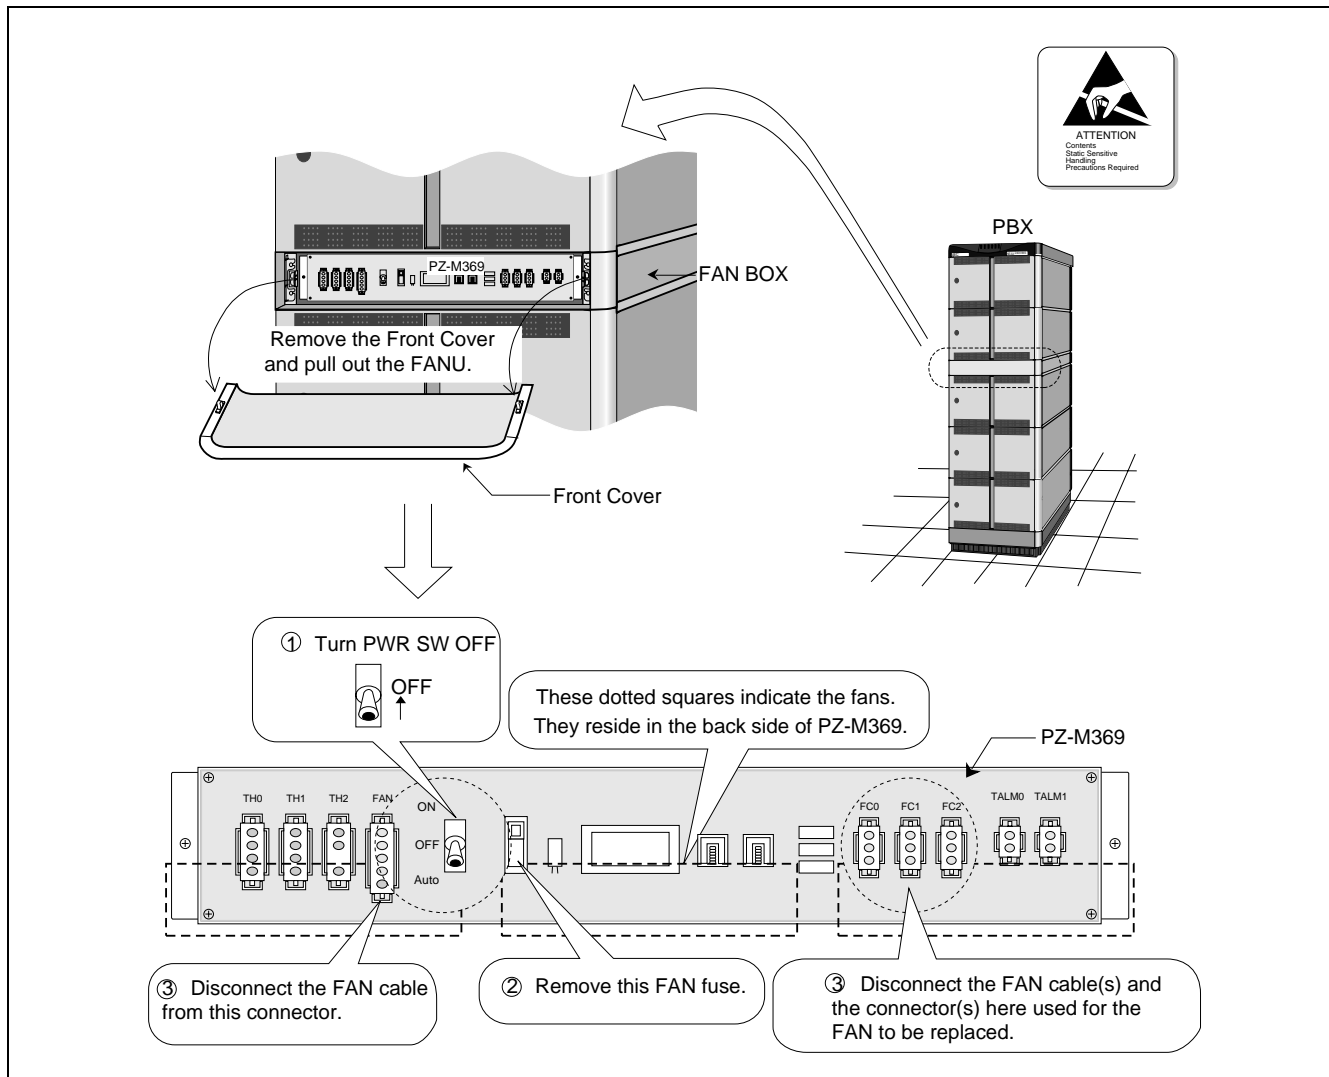

Figure 4-22 Preparation for FANU Replacement (Fans in Fan Box)
- STEP 2 Turn OFF the PWR SW on the PZ-M369. (Refer to Figure 4-22.)